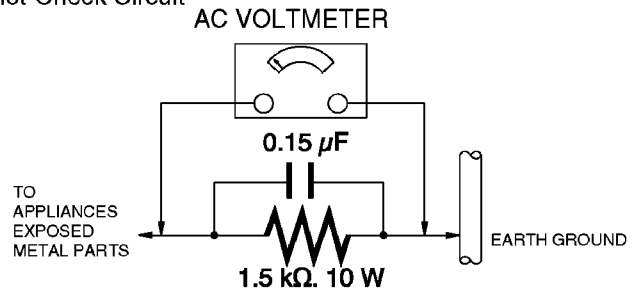

Figure 1
(See figure 1.)
2. Connect a 1.5 kΩ, 10 W resistor, in parallel with a 0.15 μF capacitor, between each exposed metallic part on the set and a good earth ground, as shown in figure 1.